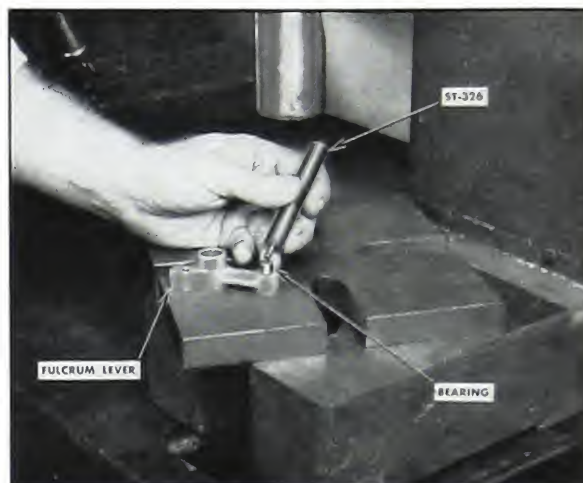

Fig. 5-224. Assembling link pin needle bearing to fulcrum lever
2. If necessary, the two needle bearings at the fulcrum of the fulcrum lever can be pressed out and replaced. Use ST-327 to give proper spacing. See Fig. 5-224 and "General Instructions."
4. Check link bearing with a new link pin. When necessary, drive out and replace using ST-328 mandrel. Fig. 5-224.